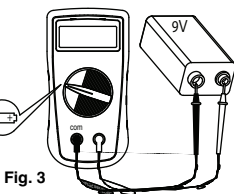

Fig. 3
3.4 HOUSEHOLD BATTERY TESTING (FIG. 3)